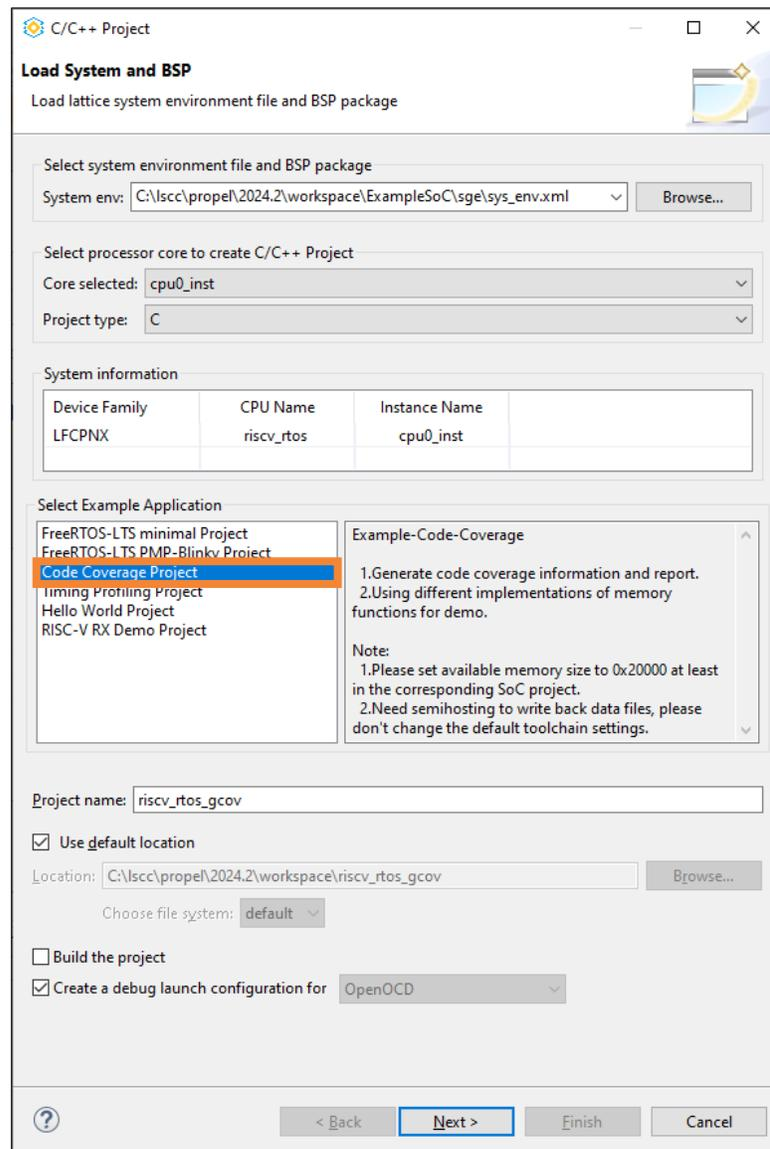

Figure 6.3. Load System and BSP Page 5
1. The RX Demo C project can be created through the **Load System and BSP** page (Figure 6.3).